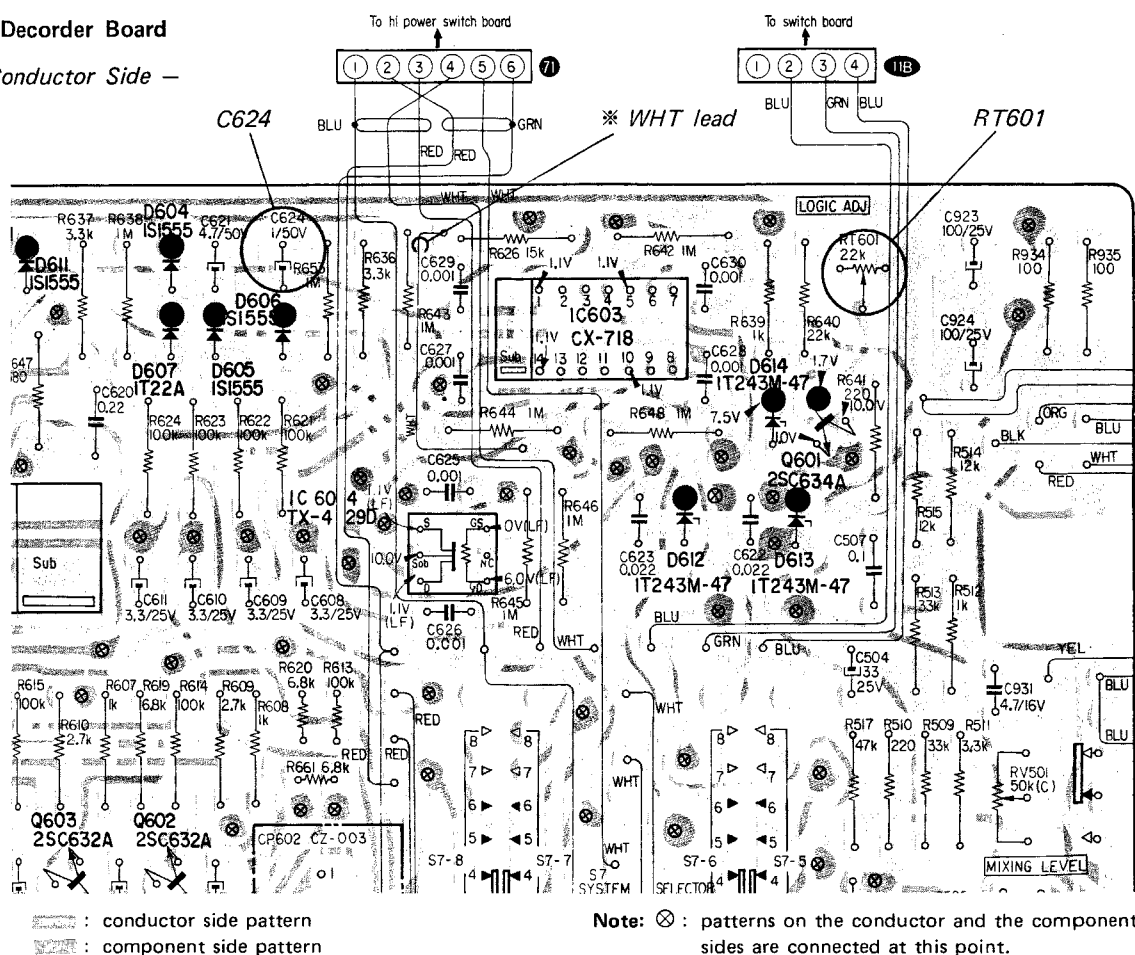

Fig. 2. SQ Separation Adjustment Location
2. Remove the WHT lead ✖ on the SQ decoder board. (See Fig. 2)